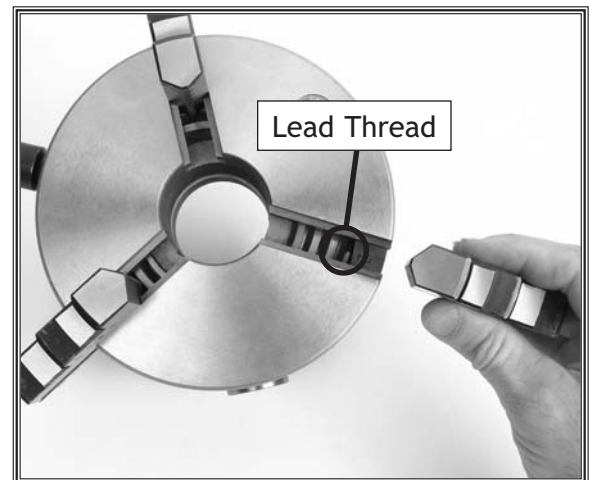

Figure 26. Lead thread coming in to view for jaw #3.
10. Continue to turn the chuck key until the leading thread of the scroll comes to the third jaw guide. (see **Figure 26**).